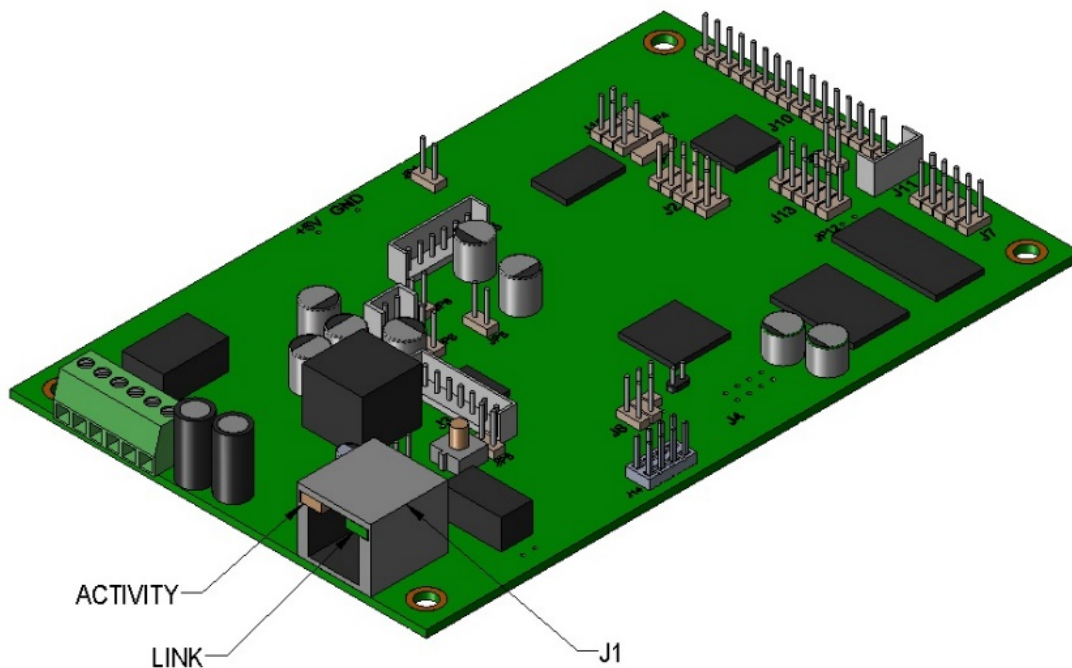

Figure 11 - Network Activity
- The square, green **Link** light above the Ethernet port indicates that the network connection has been established (see Figure 11). The Link light changes color to confirm the auto-negotiated baud rate: